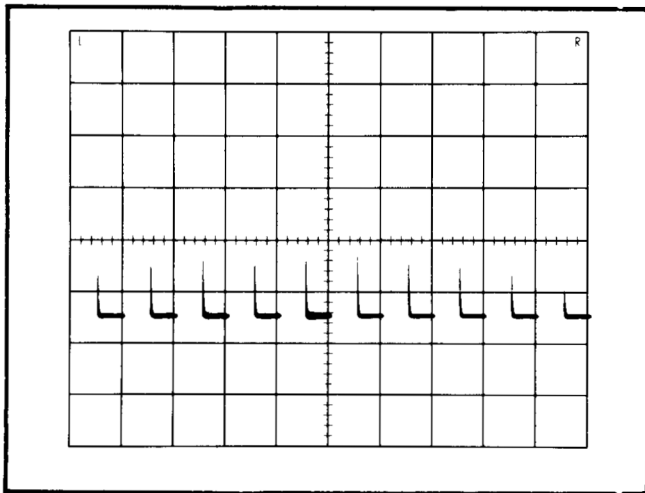

Fig. 6-21. Typical CRT display of intensity modulation.
e. Check—For intensity modulation of the waveform (Fig. 6-21).